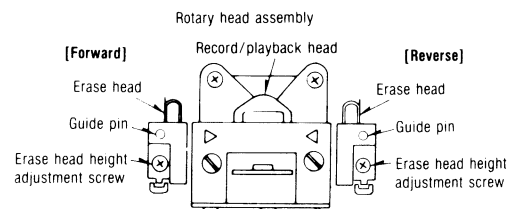

Fig. 2
- Turn the erase head height adjustment screws on the rotary head assembly counterclockwise until the upper end face of the erase heads is aligned on the same plane as the top face of their respective guide pins. (Refer to figs. 2 and 3.)